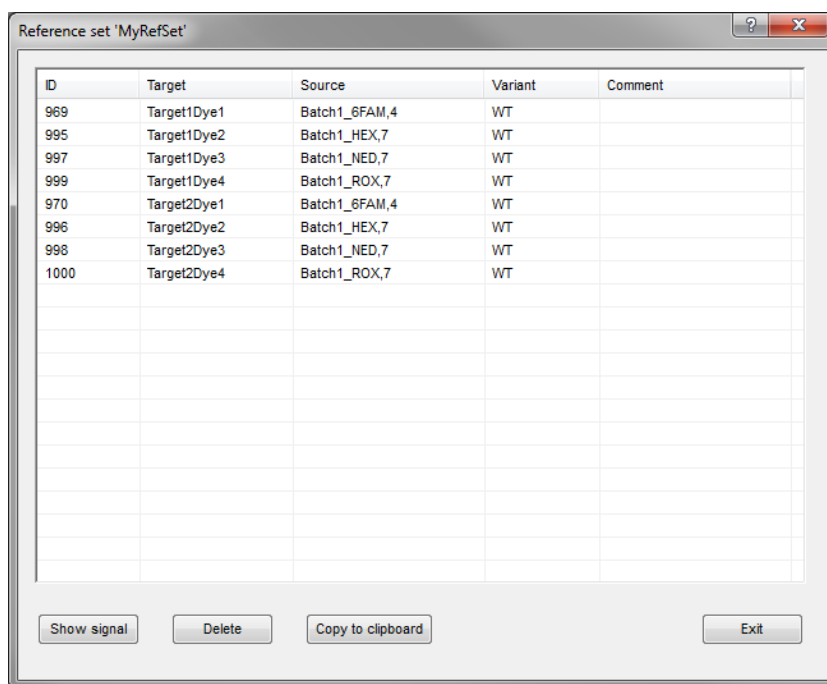

Figure 3.32: The *Reference set* dialog box.
15.10 Select the created reference set (**MyRefSet**) and press <**Edit**> to call the *Reference set* dialog box (see Figure 3.32).